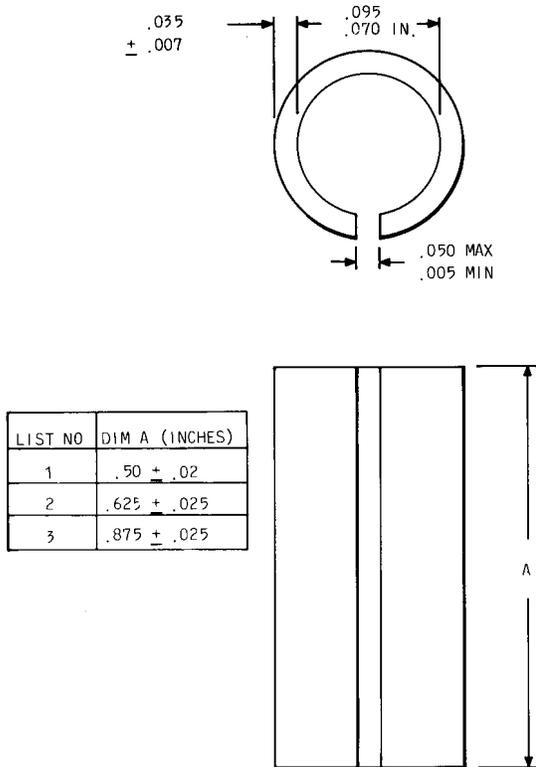

Fig. 6—KS-16604-Type, Terminal Insulator Tools
2.07 KS-16604, L1, L2, and L3: The KS-16604-type terminal insulator tools (Fig. 6) are designed to electrically insulate, protect, and designate special service circuits on wire wrapped terminals. The KS-16604-type tools are slotted to allow clearance for a bridged termination.